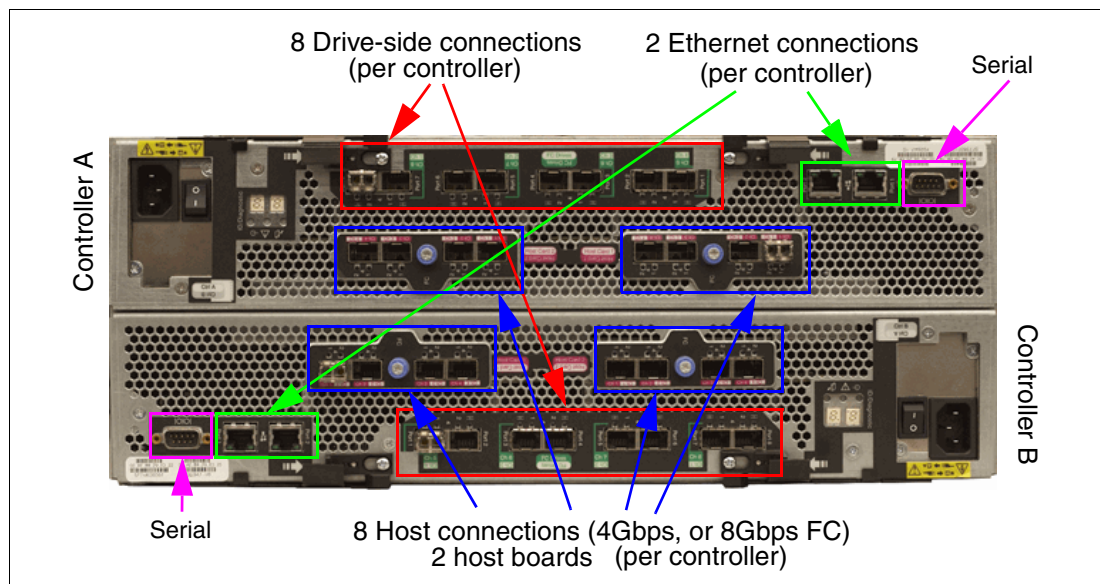
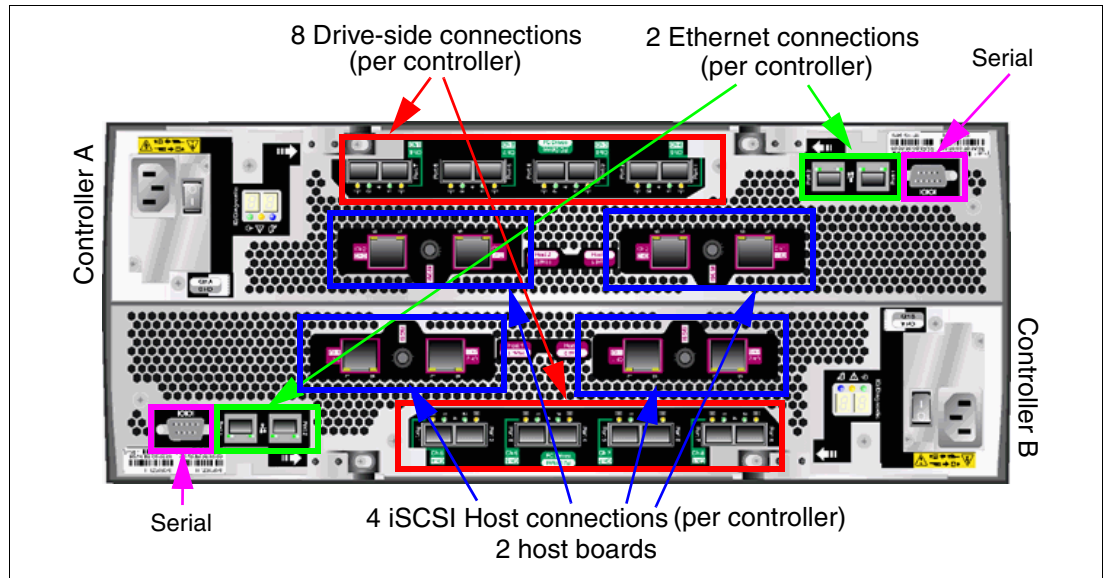

Figure 2-15 Rear view of the DS5000 storage subsystem: FC version
Figure 2-16 Rear view of the DS5000 storage subsystem: iSCSI version
The rear of the DS5000 shows the two controllers stacked on top of each other in a horizontal fashion. Controller A is located on the top and controller B is located on the bottom. The DS5100 and DS5300 system can have two Host Interface Cards in total. Both controllers are hot-swappable (Figure 2-15 and Figure 2-16).
- ▶ Fibre Channel version, which has one or two FC HICs installed per controller (Figure 2-15).
- ▶ iSCSI Version, which has one or two iSCSI HICs installed per controller (Figure 2-16).